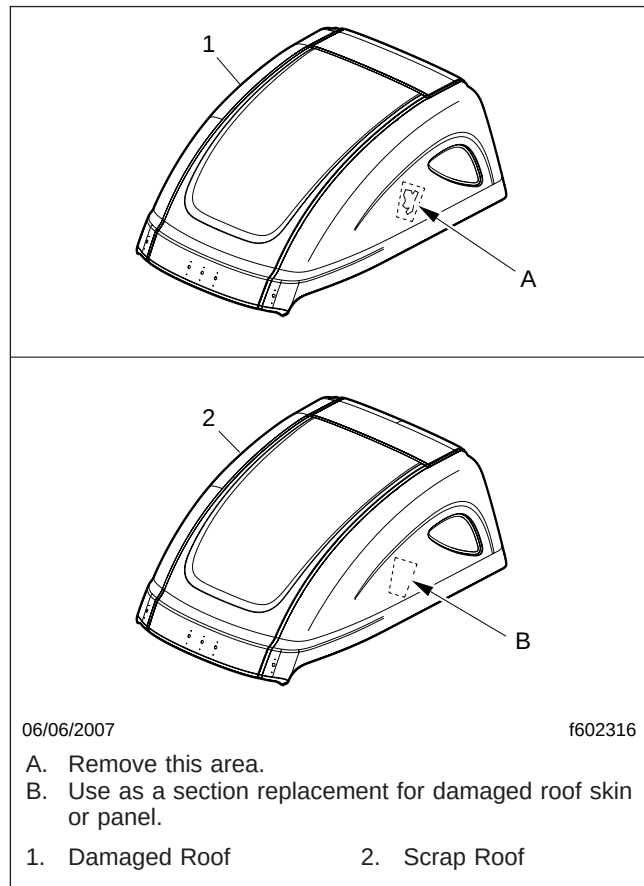

Fig. 6, Section Replacement of a Damaged Fiberglass Roof
4. Using a saber saw, cut out a large, straight-sided panel containing the damaged area; see the example in Fig. 6, Ref. A. If the damage extends to a joint where the part is bonded to another, first separate the bonded portion of the damaged section with a heat gun and putty knife before cutting.
5. From the scrap roof panel or new part, cut a section replacement panel from the same area, only slightly larger than the original cutout; see the example in Fig. 6, Ref. B. Then, trim the section replacement to fit both the size and contour of the original cutout.